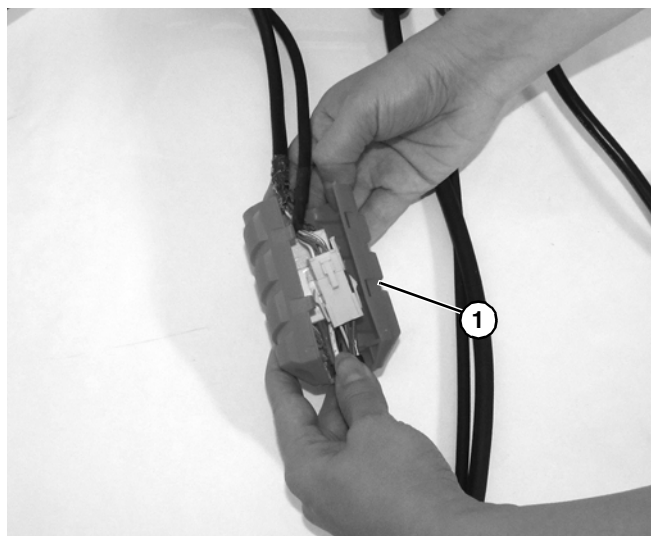

Figure 11
5. Install inner cord cover (Figure 11, item 1).